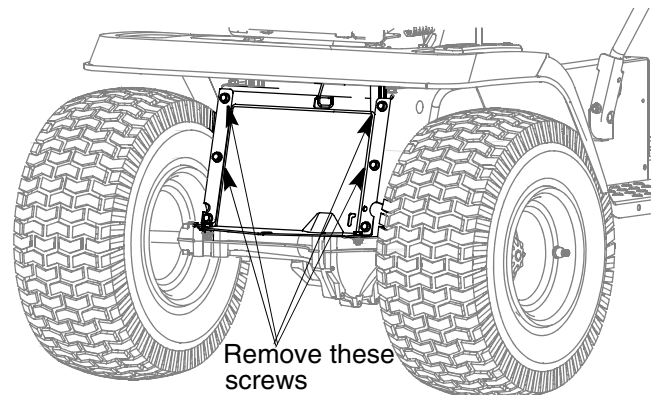

FIGURE 2
- Remove the top four self-tapping screws from the rear of the lawn tractor. See Figure 2
- Secure the Catcher Support Bracket to the tractor frame with two self-tapping screws removed earlier. Refer to Figure 2. Repeat on the left hand side using the LH Catcher Support Bracket (Ref. No. 4).